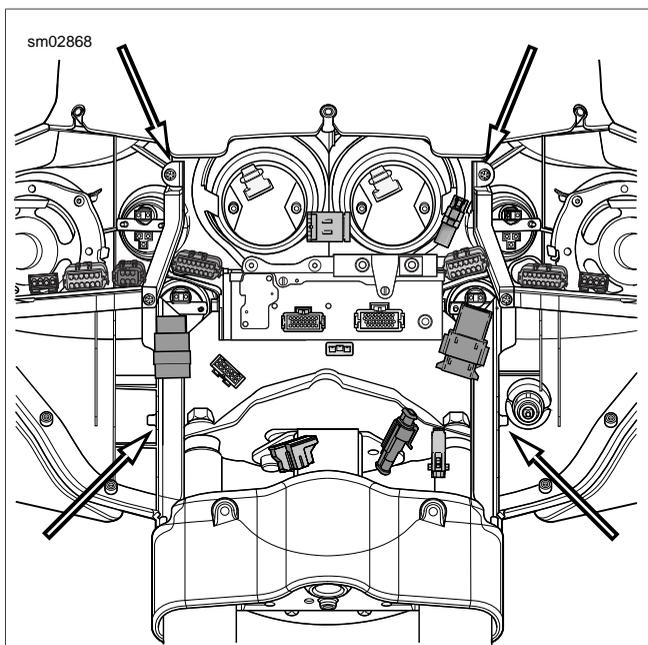

Figure 2-138. Remove Fairing Bracket Screws
17. Remove four screws to free inner fairing from fairing bracket. See Figure 2-138.
7. Install four screws to fasten inner fairing to fairing bracket. See Figure 2-138.